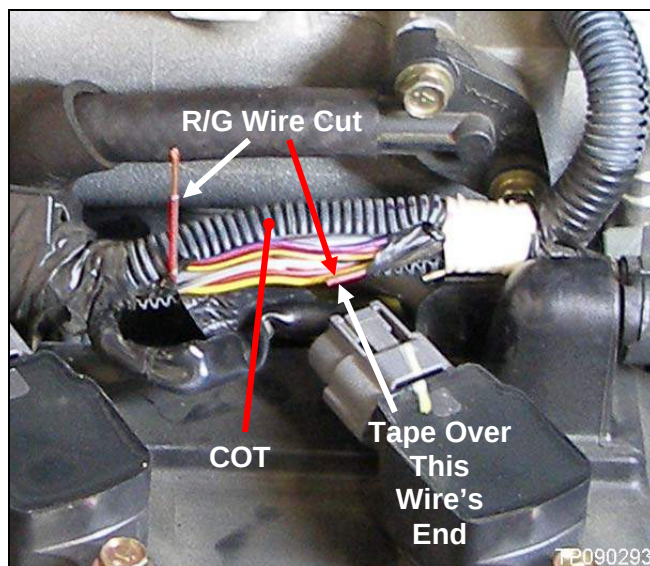

Figure 5
- b. Carefully open the harness's cover of tube (COT, or thick plastic sheathing), and then locate the R/G wire (see Figure 5).
- c. Cut the R/G wire (see Figure 5).